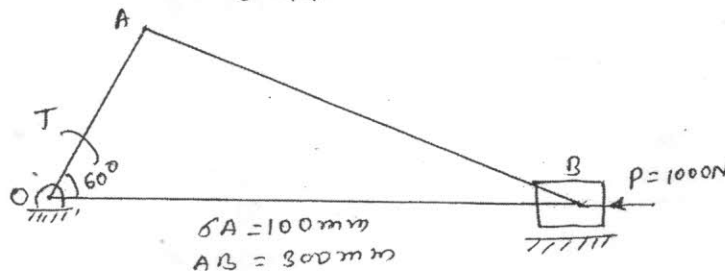

Fig. 1(b)
- b) Determine the input torque (T) on the crank of a slider-crank mechanism shown in Fig. 1(b).